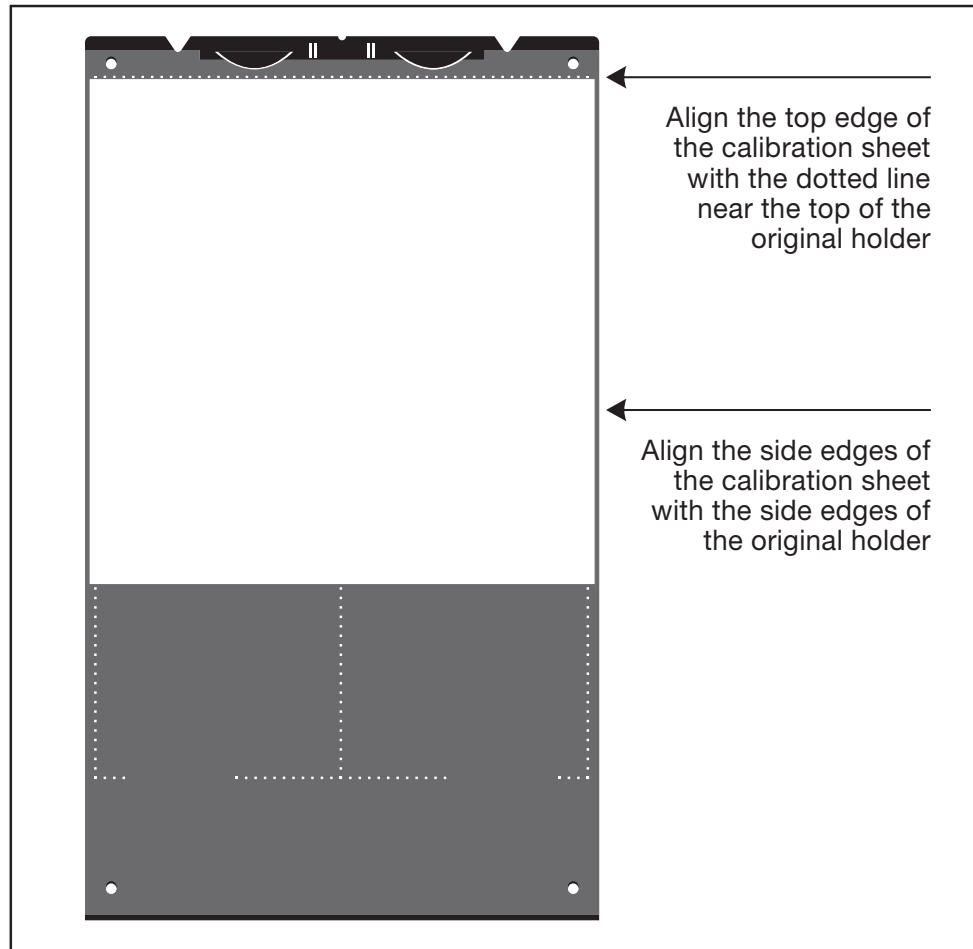

Figure 6: Positioning the white calibration sheet on the reflective holder
3. Align the top edge of the sheet with the dotted line near the top of the original holder (see Figure 6 opposite). Align each side of the target with the edges of the original holder.